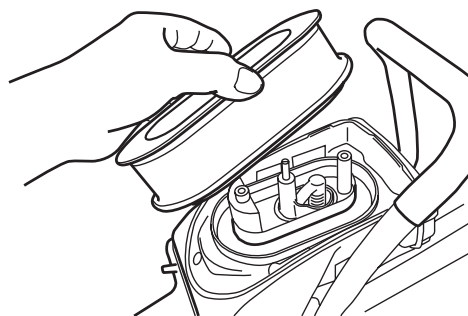

Figure 13
3. Unscrew the two bolts securing the filter element, remove the filter element. See Figure 13.